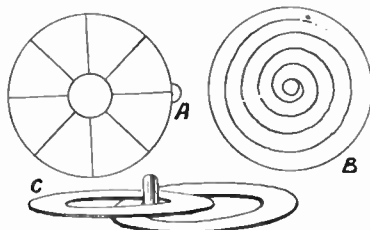

Fig. 5—Some alternative discs
These may be of stout paper or thin card about 3½ins. in diameter. At (A) in Fig. 5 is given one idea of how to divide up the circle ready for painting in In water colour. The 'pimple' shown at (A) is intended as a means to change the colour scheme. While the discs are in motion, just a touch of the finger will alter their position on the wood disc, thereby varying the colouring. It will be understood that two or more card discs can be placed in the 'table' at one time. At (B) a spiral disc makes for a unique effect.